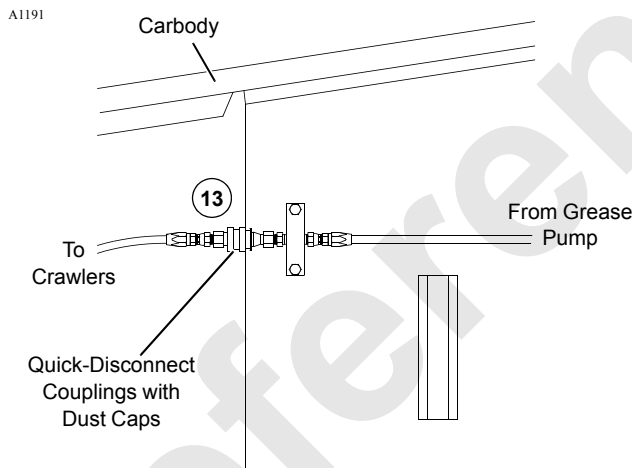

FIGURE 4-8
13. If equipped with automatic crawler lube system, connect grease line from crawler to quick-disconnect coupling on carbody (Figure 4-8).